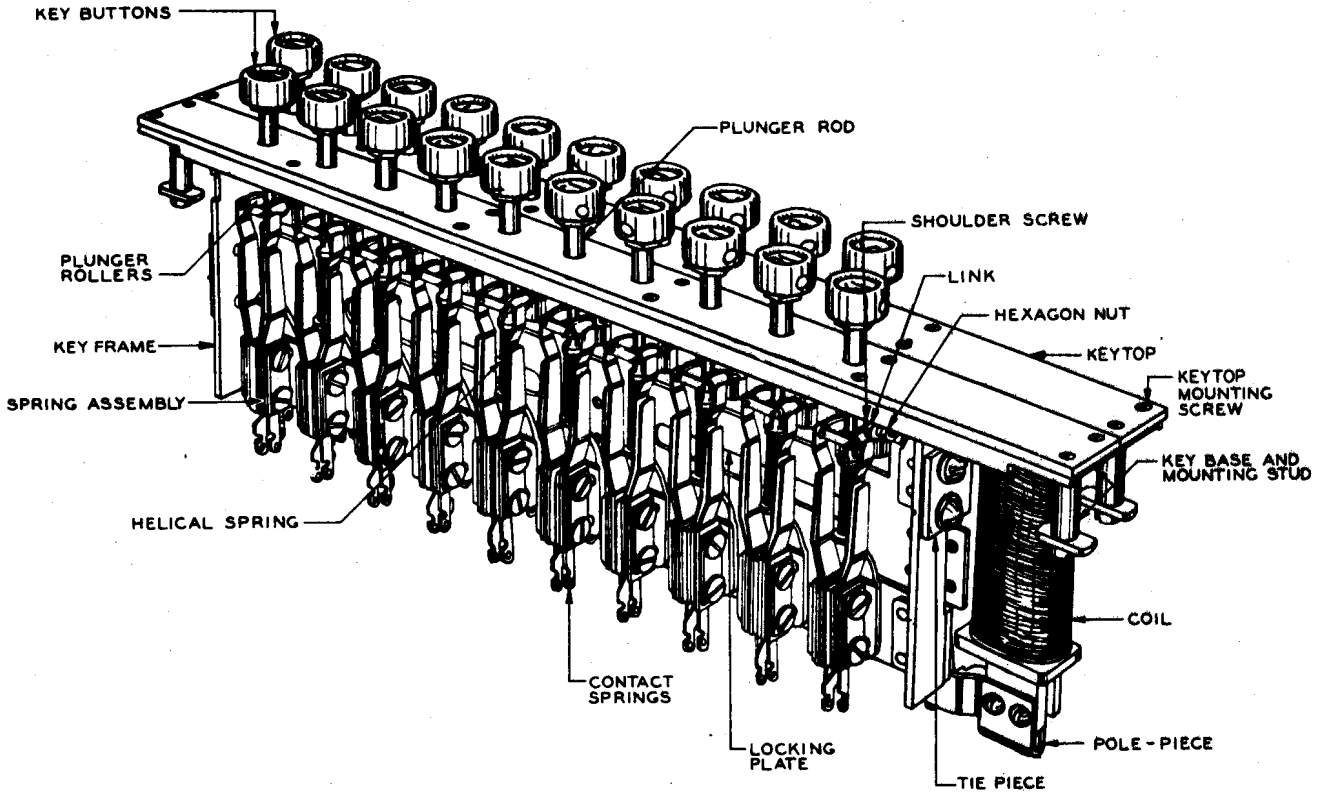

Fig. 57—E2-Type Key
3.23 E2-Type Key (10 Through 19 Units): Remove the two space mounting screws with the 3-inch C screwdriver. Hold the shoulder screw nut with the 485A pliers, and remove the shoulder screw with the KS-6854 screwdriver. Remove the tie piece mounting screws with the 3-inch C screwdriver. The two units can now be separated. Replace the locking plate as covered in 3.21. Reposition the tie pieces, and tighten the screws securely. Replace the shoulder screw in the link, and tighten the screw and nut securely. Replace the two spacers, and tighten the screws securely. (See Fig. 57.)